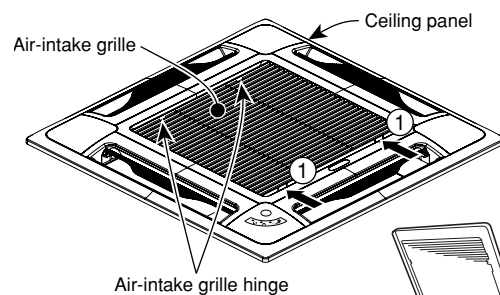

**Fig. 6-11**
- Ⓐ must be within the range of 1/2"(13mm) to 23/32"(18mm). (Fig. 6-11)
- (1) Check that the ceiling hole is 23-5/8" (600 mm) × 23-5/8" (600 mm) (Fig. 6-11)
- (2) Confirm that the position of the indoor unit and the ceiling as shown in the diagram. If the positions of the ceiling surface and unit do not match, air leakage, water leakage, flap operation failure, or other problems may occur. (Fig. 6-11)